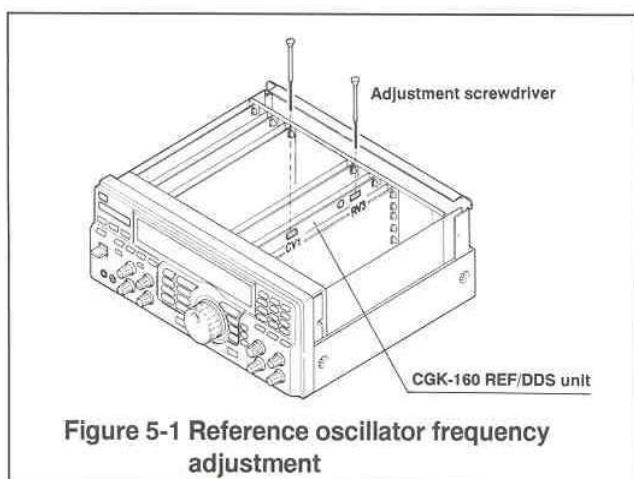

Figure 5-1 Reference oscillator frequency adjustment
(1) REFERENCE OSCILLATOR FREQUENCY ADJUSTMENT
- ① Turn the POWER switch ON and select the CW mode to receive the standard time station (JJY, WWV, etc.). At this time, adjust as far as the 10 Hz digit of the reception frequency to the frequency of the reference wave.
- ② Set the BFO offset frequency to ± 0 Hz referring to "4.5 Modifying Operations by User Setup."
- ③ Adjust the trimmer capacitor (CV1), located at the top of the shield case of the CGK-160 REF/DDS unit, as shown in Figure 5-1 until no beat note is heard from the speaker.
- ④ This completes adjustment of the reference oscillator frequency. Return the BFO offset frequency to +800 Hz, turn the POWER switch OFF and attach the top cover.